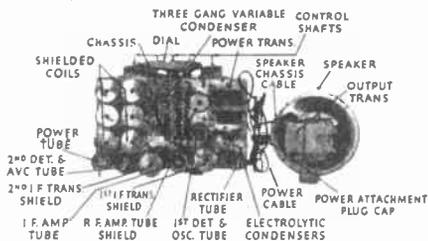

Fig. 4A. Most of this you can see without removing the chassis from the cabinet
**Look for Loose Parts.** Carefully examine all the parts bolted on the upper and under side of the chassis. Study their construction, learn to call them by name and which devices have 2 leads, 3, 4, or more. Figures 4A and 4B will help you recognize the parts.